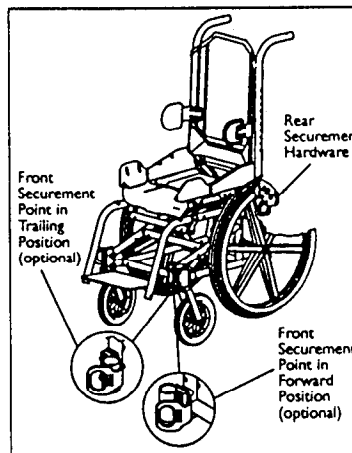

Figure 1
4. The location of the wheelchair securement points are shown in Figure 1.